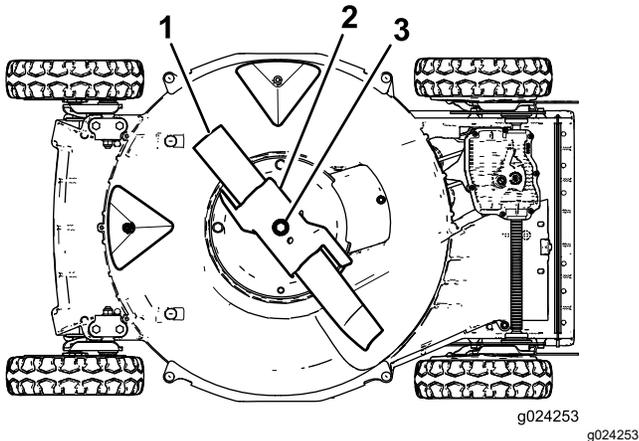

Figure 25
- Tip the machine onto its **right** side (air cleaner up) as shown in Figure 25.